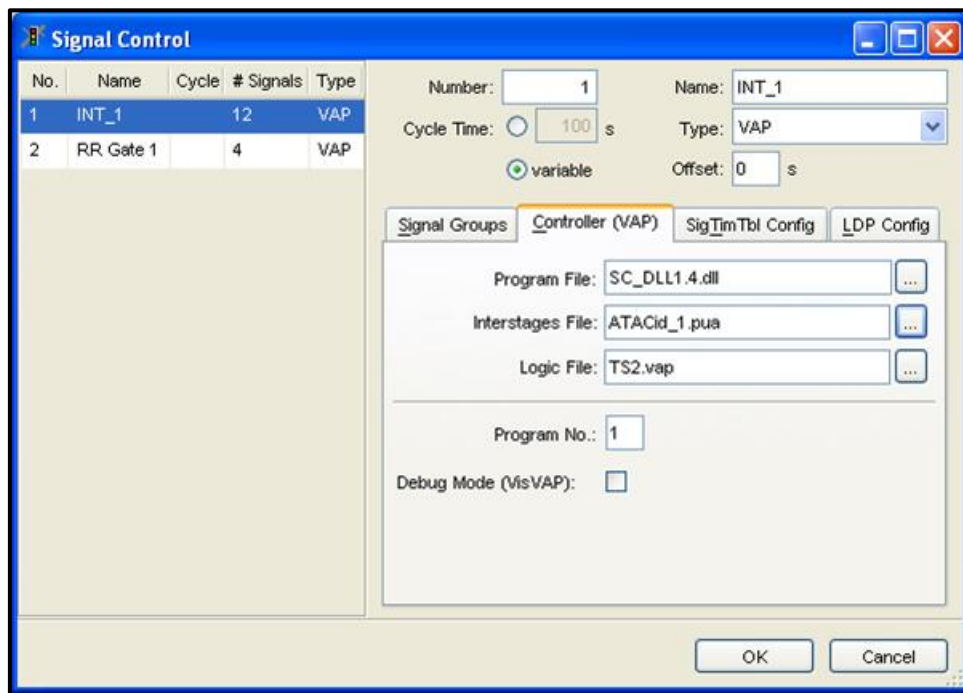

Figure 2.5. Signal Control Parameters for Using ATACid
6. Select the Controller (VAP) tab to associate the controller files (Figure 2.5). For the program file, browse to the SC\_DLL\_#.#.dll file located in VISSIM\exe directory (e.g., VISSIM500\exe).
7. For the Interstages and Logic files, browse to the appropriate .pua and .vap files which must be copied into the same directory as the “INP” file. These files were provided with the ATACid installation and are named ATACid\_1.pua and TS2.vap. Each signal controller (SC) must have a unique .pua file (e.g. ATACid\_1, ATACid\_2, etc, or INT1, INT2, etc,). However, only one .vap file is needed for each VISSIM network.